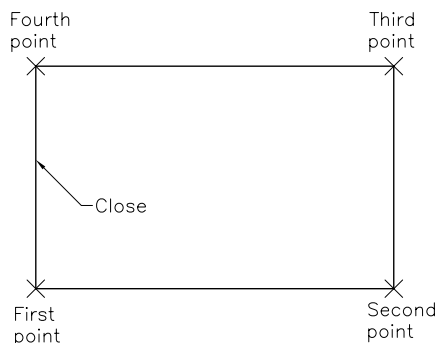

Figure 2-12 Using the **Close** option of the **Line** tool
*Specify next point or [Close/Undo]: **C**  (The fifth point joins with the first point). Refer to Figure 2-12.*